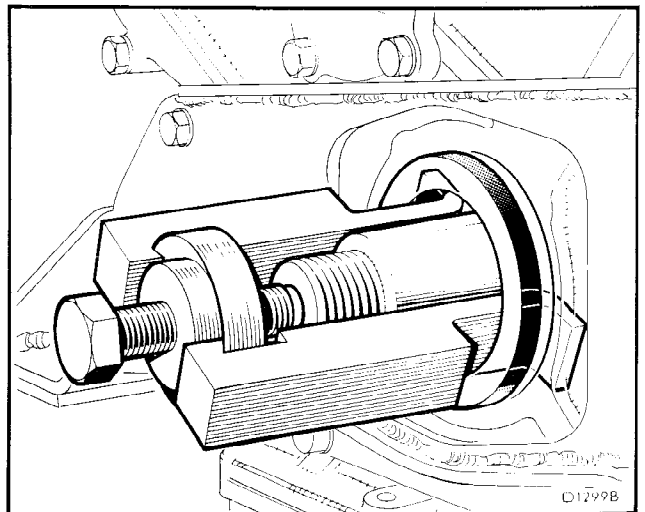

Fig. 1
4. Withdraw the crankshaft front oil seal from the timing cover, using tool 18G 1111 (refer to Fig. 1).